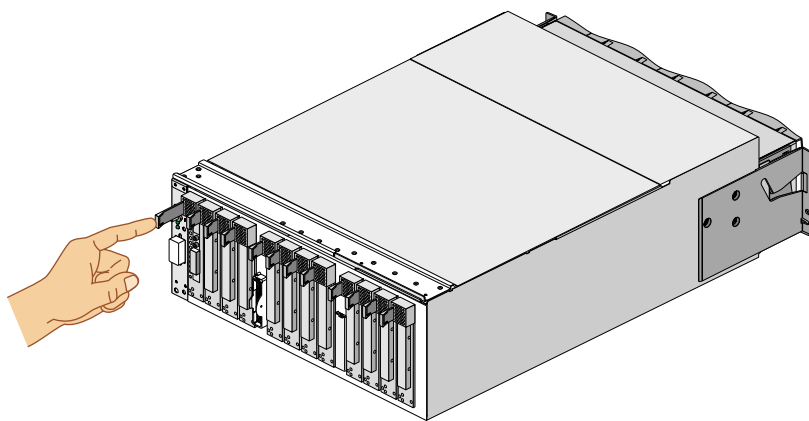

Figure 2-10 Seating PCI Card in PCI Slot
6. Push in the PCI card actuator tab until the card seats in its slot (see Figure 2-10).